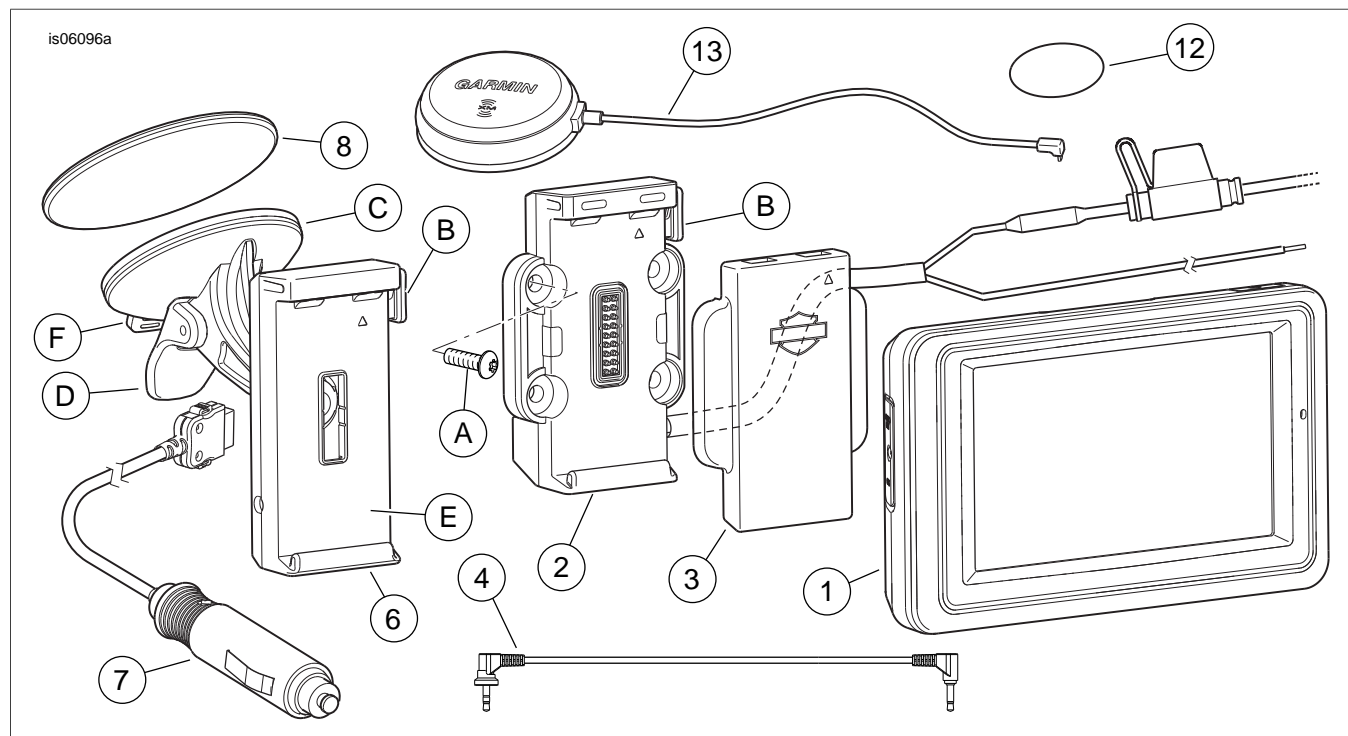

Figure 1. Service Parts, Road Tech Zumo 660/665 GPS Kit
See Figure 1 and Table 1.
See Figure 1. The cradle mount (2) needed for installation to the motorcycle will be found in **THIS** kit.
1. See Figure 1. Obtain the Road Tech Zumo unit (1) from the kit. Install the battery if necessary (see **Motorcycle Installation**).
3. To remove the unit from the cradle push the button (B) on the side of the cradle and tilt the unit forward.